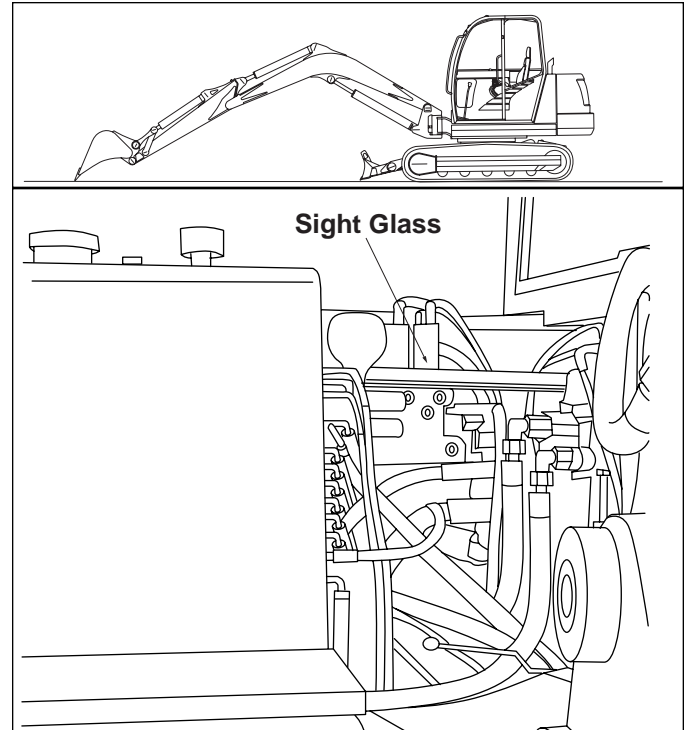

Figure 4-12. Checking Hydraulic Oil Level
2. Fully extend the bucket and booms shown (Figure 4-12). Lower bucket and dozer blade to the ground. Turn off the machine.
3. Remove the hydraulic valve cover as shown (Figure 4-12).
5. Add hydraulic oil until oil level is between red and black marks on indicator (Figure 4-12).
2. Fully extend the bucket and boom. Lower bucket and dozer blade to the ground (Figure 4-12). Turn off the machine.
7. Fill tank with hydraulic oil until oil level is between red and black marks on indicator (Figure 4-12).